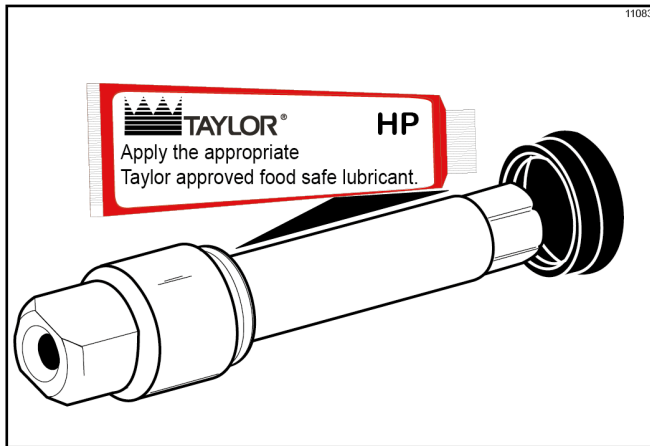

Figure-127
1. Before installing the soft serve beater driveshaft, lubricate the groove on the beater driveshaft. Slide the beater driveshaft boot seal over the small end of the beater driveshaft and engage into the groove on the shaft. Heavily lubricate the inside portion of the boot seal, and also lubricate the flat end of the boot seal that comes in contact with the rear shell bearing. Apply an even coat of lubricant to the shaft. **Do not** lubricate the hex end. (See Figure-127.)